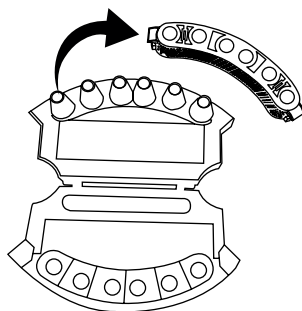

Figure 2
2. Open the dustbin to access the protection filter. Unclip the protection filter from the cyclonic part by squeezing the release notches (Figure 2).